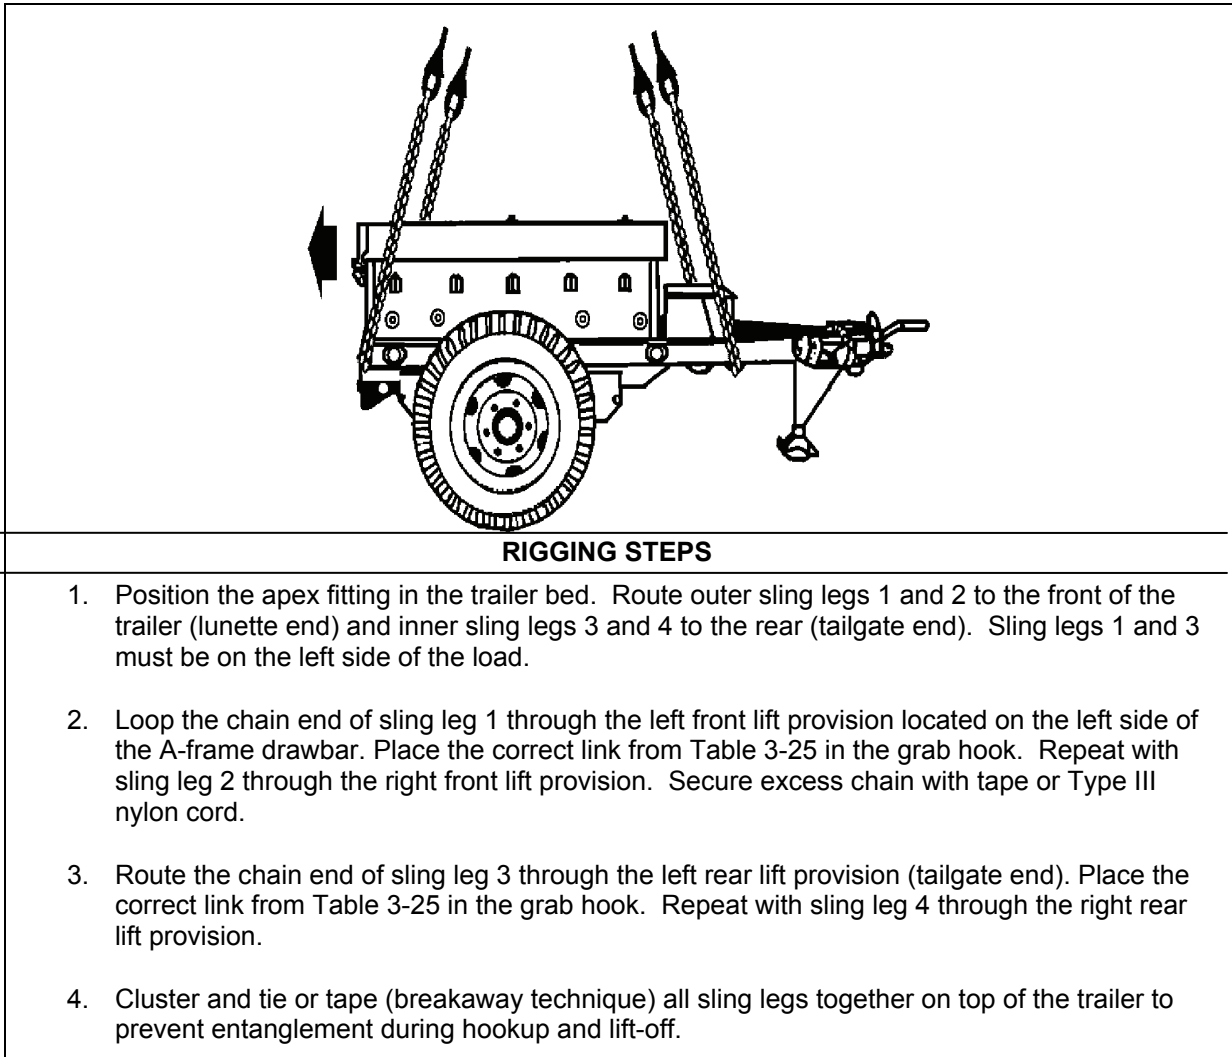

Figure 3-25. M332, 1 1/2-Ton Ammunition Trailer
- **Rigging.** Rig the load according to the steps in Figure 3-25.